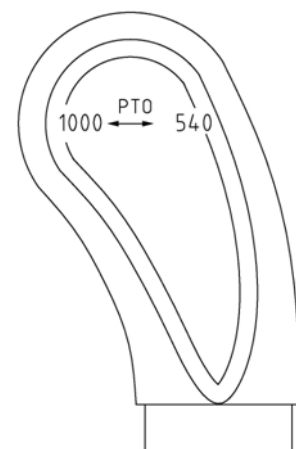

Fig 4-20
- (1) Take out the joint which in the tractor's accessories, connect one end to implement on the pipeline.
- (2) Remove the rubber plugs, rubber plug for the same set of hydraulic output circuit are the same color.
- (3) Selected to remove the self-closed joint sleeve position, and then grip and push the self-closed joint's sleeve (as shown in figure 4-20), as in the case of without letting go, insert the other end of the connector into self-closed joint's sleeve. When it is confirmed that it has been inserted correctly, release you hand, the self-closed joint sleeve and the connector are connected together, thus realizing the quick connection of the pipeline. Make sure that hose ends and coupler receptacles are clean and dry.
- (4) After using the hydraulic output valve, place the multiple directional control valve handle in a neutral position, push it again by hand in the shell of the self-sealing joint sleeve, unloose the connector body, immediately release the connector body, and plug the plug into the self-sealing nipple sleeve. Then grip
implement when the tractor stops. The speed of PTO changed by PTO control handle (as shown in figure 4-20).